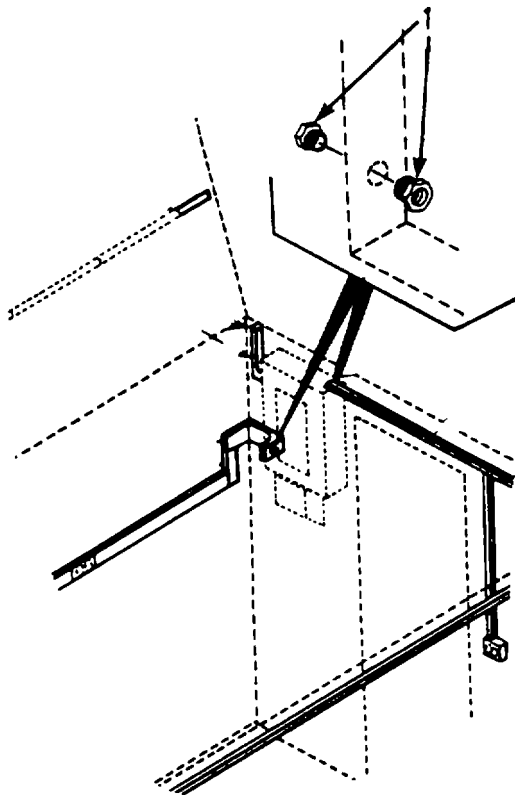
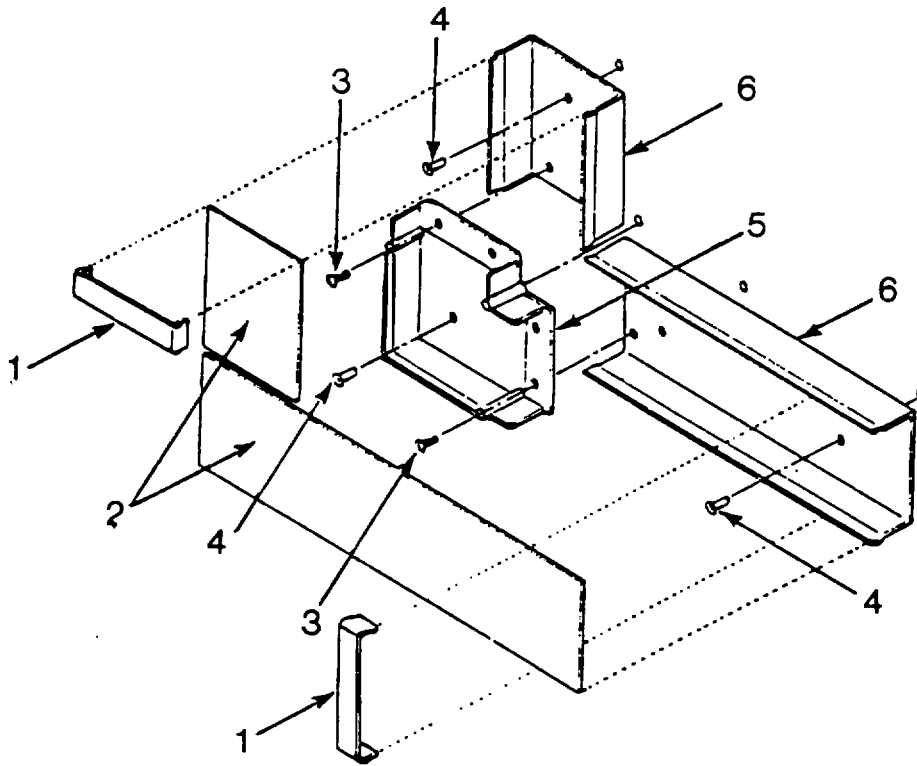
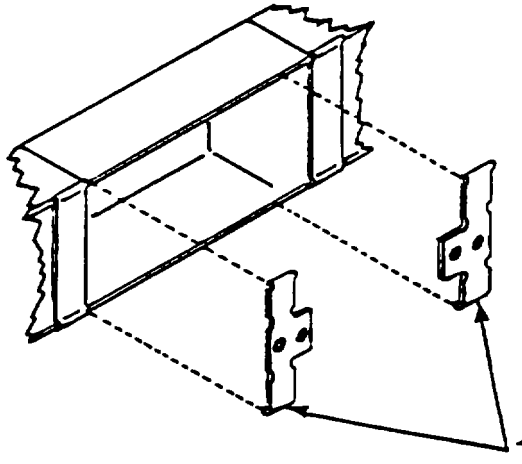

Figure 5-5. Conduit Bushings
Figure 5-6. Rigid Conduit Assembly
Figure 5-7. Receptacle Clips
a. Inspect. (See Figure 5-5.)
- (1) Inspect conduit channels, channel covers and clips on shelter walls and ceiling for bends, breaks and sharp edges.
- (2) Inspect conduit channels, channel covers and clips for corrosion and security of installation.
(a) Remove conduit bushings (1, Figure 5-5.)
- (b) Remove clips (1, Figure 5-6) and cover (2).
- (d) Remove screws (3) and rivets (4).
- (e) Remove corner bracket (5) and channel (6).
- (f) Remove receptacle clips (1, Figure 5-7).
- (g) Install and secure conduit channel (6, Figure 5-6) with rivets (4).
- (h) Install and secure corner bracket (5) with screws (3) and rivets (4).
- (i) Install receptacle clips (1, Figure 5-7), cover (2, Figure 5-6), and conduit bushings (1, Figure 5-5).